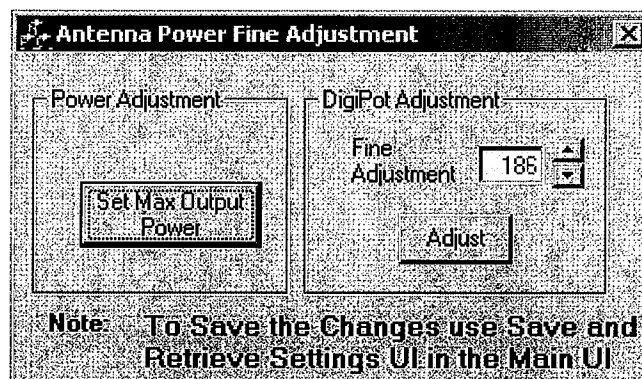

Figure 14
- 9.8.5 Press the "F9" key then select "Antenna Power Fine Adjustment" from under the Tools Menu. You will be prompted to enter a password. Enter the following "EZReader" (case sensitive) then click "OK". You should now have the "Antenna Power Fine Adjustment" screen shown in Figure 14.